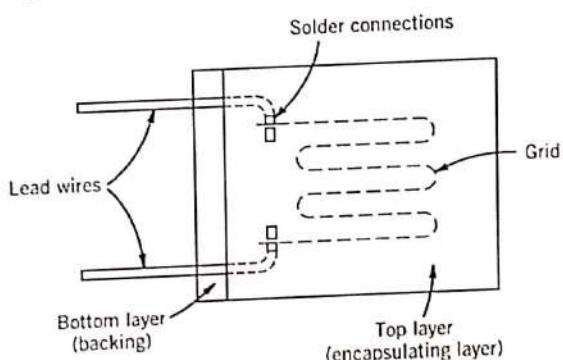

Figure 11.4 Detail of a basic strain gauge construction. (Courtesy of Micro-Measurements Division, Measurements Group, Inc., Raleigh, NC.)
**COMMENT** As shown by this example, a single straight conductor is normally not practical for a local strain measurement with meaningful resolution. Instead, a simple solution is to bend the wire conductor so that several lengths of wire are oriented along the axis of the strain gauge, as shown in Figure 11.4.